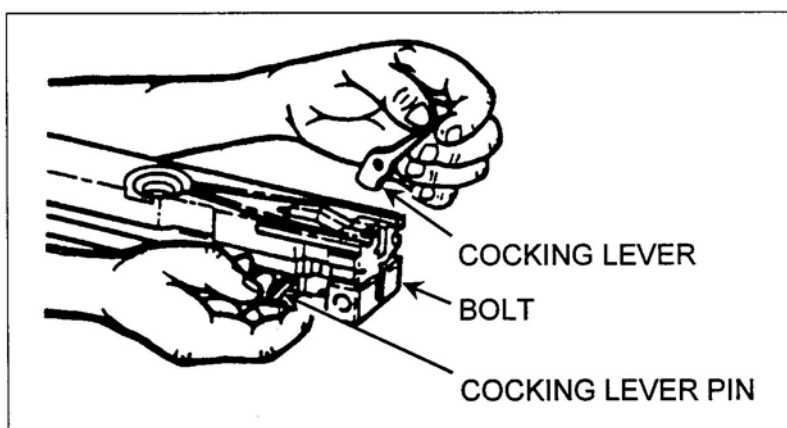

Figure 35. Attachment of the cocking lever.
- (9) Insert cocking lever, with rounded nose on lower end of lever to rear, into slot in top of bolt (Figure 35).